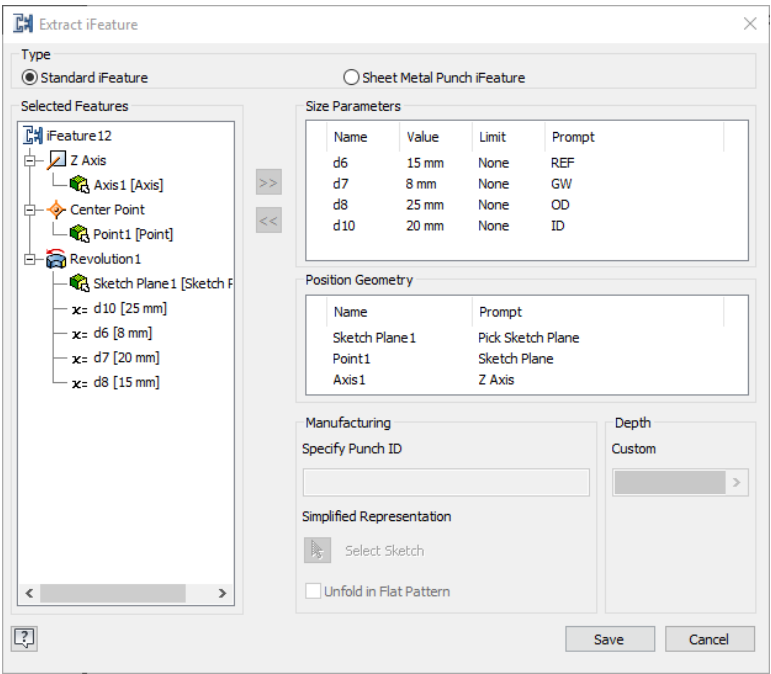

Figure 17-36 The *Extract iFeature* dialog box
- 11. Similarly, change the fields corresponding to **Point1** and **Axis1** to **Center Point** and **Y Axis**, respectively in the **Prompt** column of the **Position Geometry** area. After changing the prompts, the **Extract iFeature** dialog box appears, as shown in Figure 17-36.